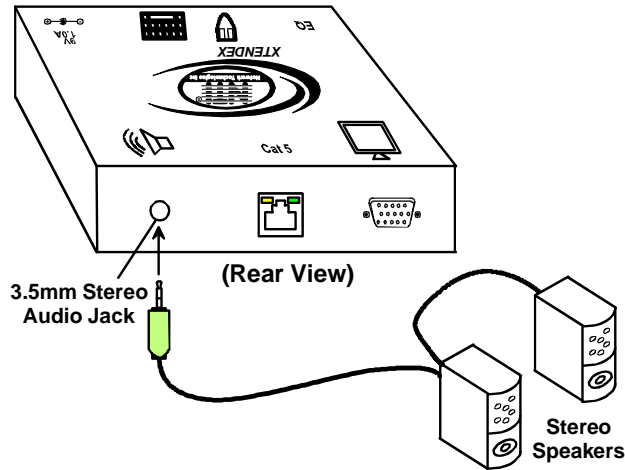

Figure 2- Connect speakers to the Remote Unit
4. If the Remote Unit has audio support, connect the cable from the remote speakers to the 3.5mm stereo audio jack on the Remote Unit. (See Fig. 2)